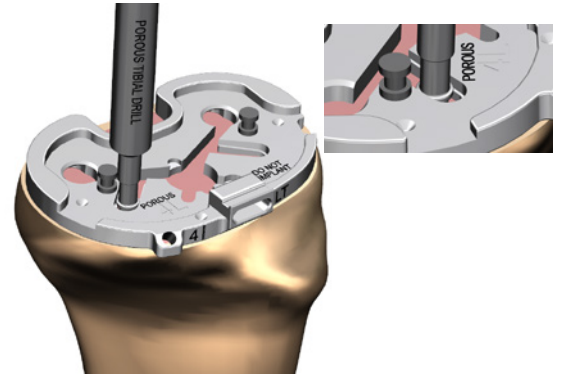

Figure 47
- 1 Use the porous tibia drill to prepare for the two anterior pegs and bridges of the porous tibia keel. Start with the drill anteriorly on either the medial or lateral peg (Figure 47) and move the drill posterior removing bone to accommodate the bridges. There is a positive stop shoulder that has been designed into the trial. Ensure drill is contacting shoulder to ensure proper depth in order to seat the implant. Repeat procedure for the adjacent side bridge.